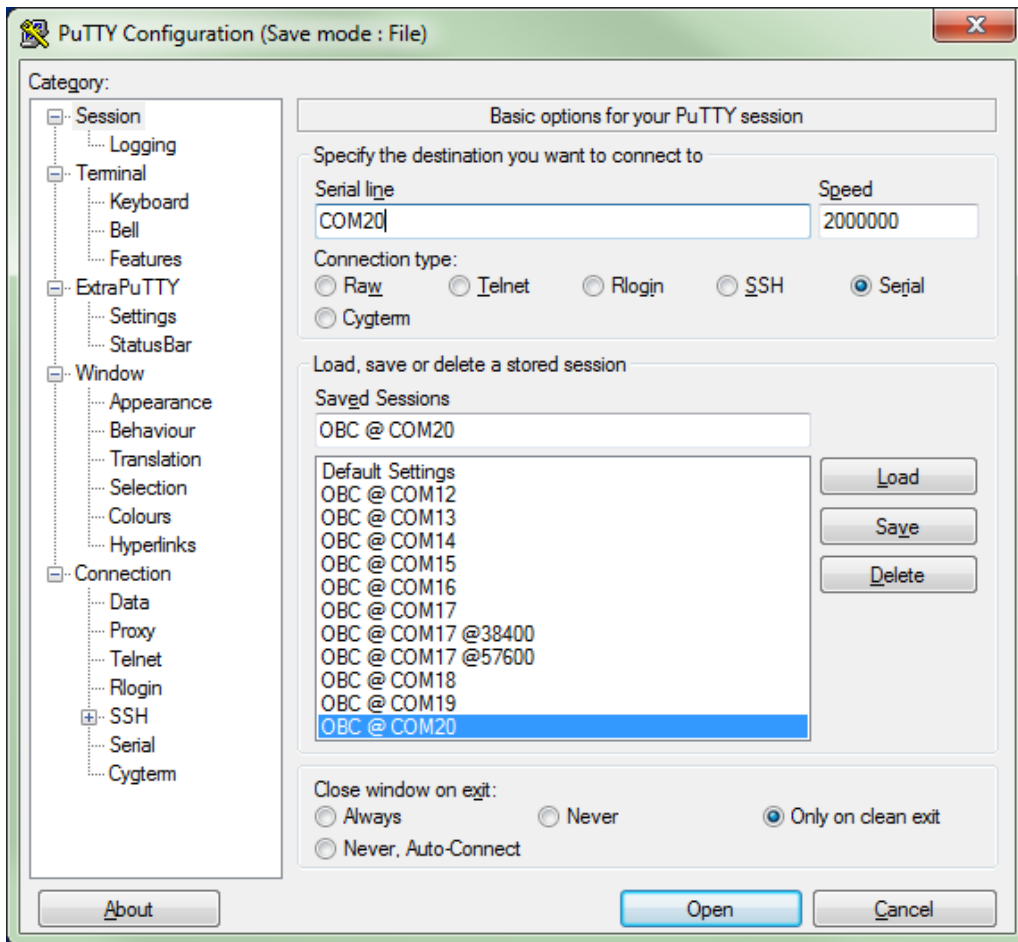

Figure 20: Putty configuration window
- Start the putty executable found via Start > All Programs > ISIS-OBC SDK > PuTTY. A window similar to Figure 20 is shown. Select Serial and set the speed to 2000000 (2MHz).